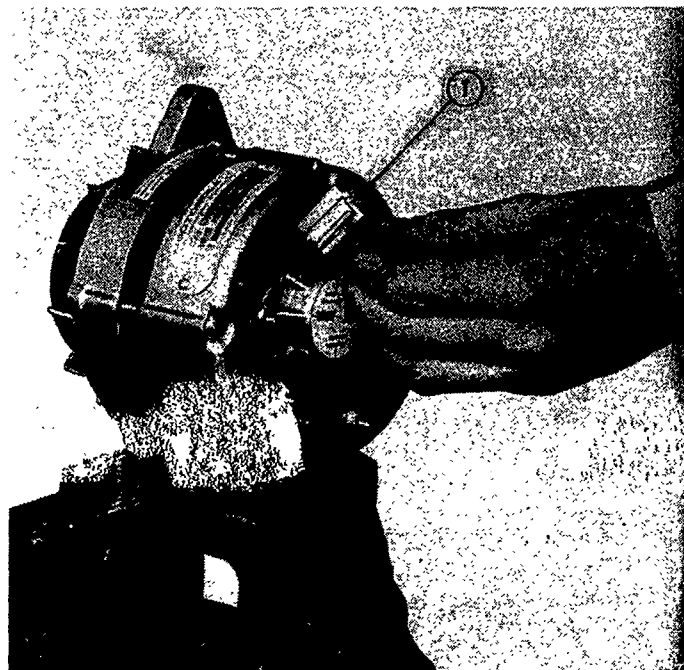

Figure 27
4. Grasp the field terminal and gently pull the brush assembly down and away from the alternator as shown in Figure 27. Refer to page 16 for inspection and repair of the brush assembly.
1. With the battery ground cable (negative) disconnected, grasp the brush assembly by the field terminal and insert it into the brush opening as shown in Figure 27.
2. Grasp the field terminal and gently pull the brush assembly down and away from the alternator as shown in Figure 27. Refer to page 18 for inspection and repair of the brush assembly.